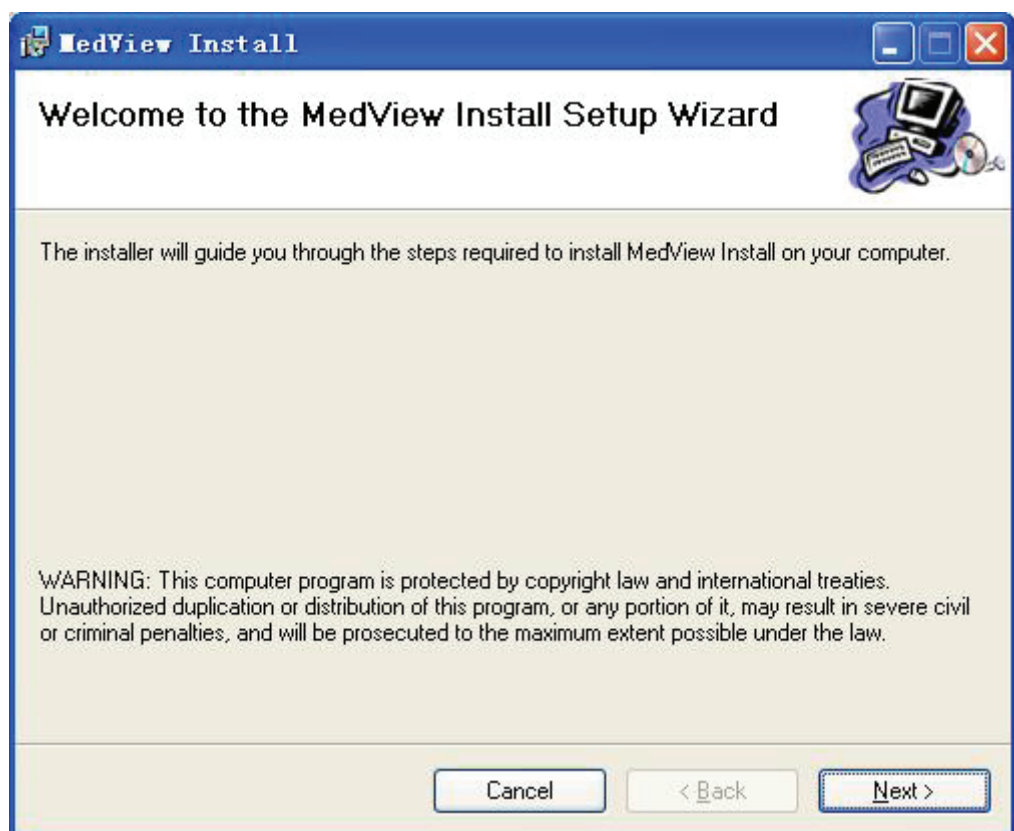
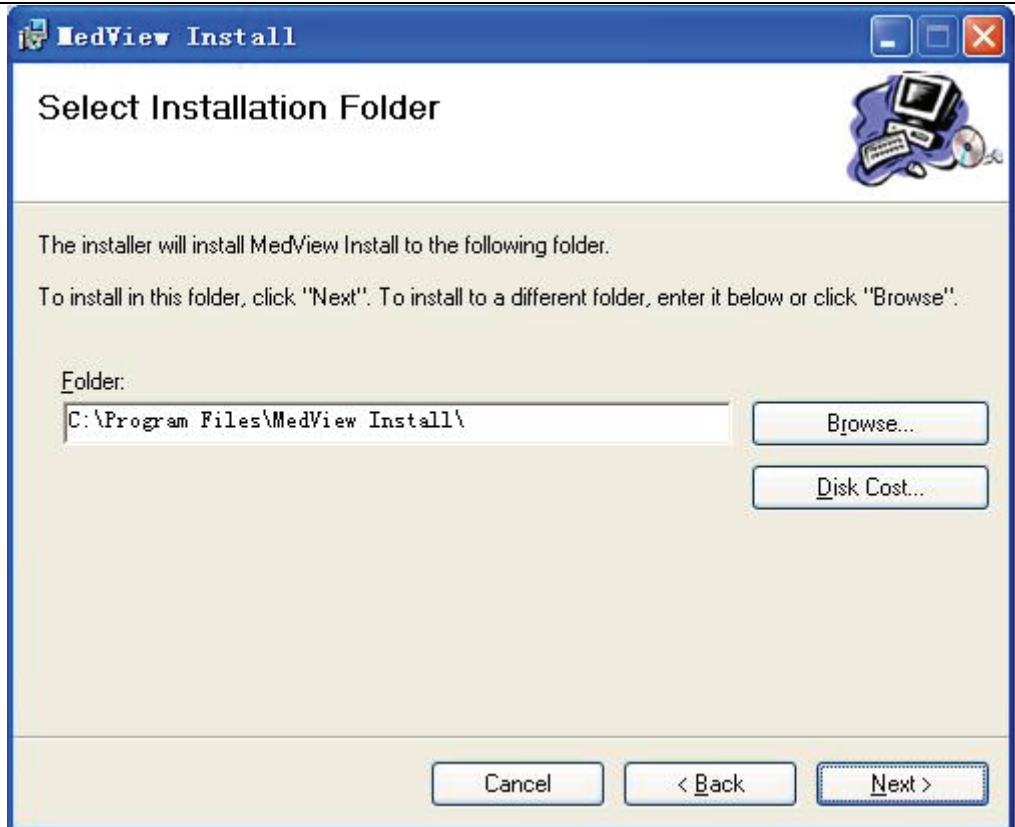
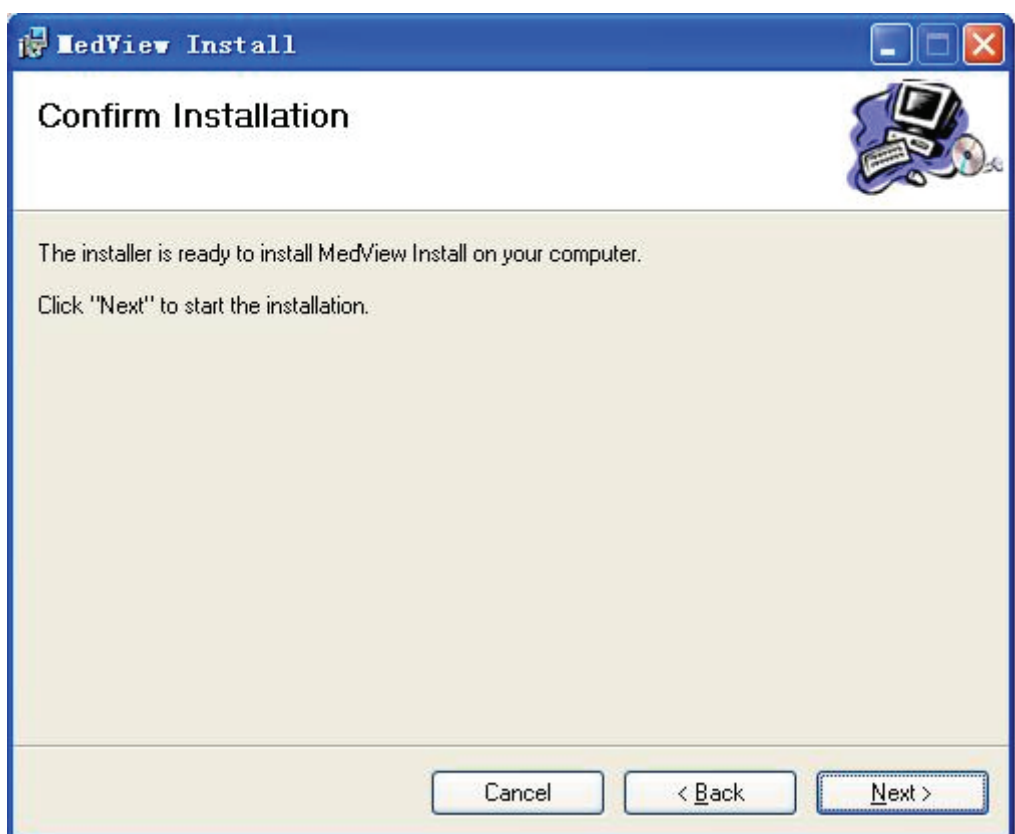

Figure 2-2
Figure 2-3
Figure 2-4
(1) Click "Install MedView Software Ver:X.X.X" in fig.2-1 to begin the installshield wizard of MedView Software. Then Figure 2-2 will appear.
(2) Click "Next" button in Figure 2-2, then Figure 2-3 will appear.
(3) Click "Next" button in Figure 2-3, the Figure 2-4 will appear and the installation files are saved in "C:\Program Files\MedView Install". Also, users can click "Browse" button to choose the path for saving the installation files.
(4) Click "Next" in figure 2-4, the software is being installed..